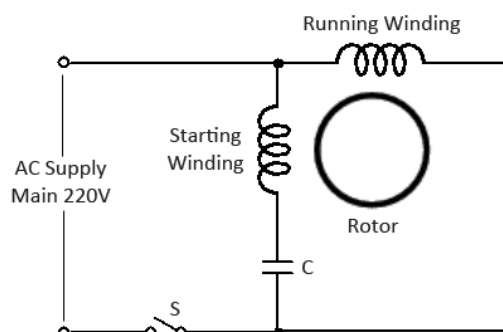

Figure 11.1 Ceiling fan circuit diagram
11.1 Perform the maintenance of ceiling fan and ending the trouble shoot problems as shown in Figure 11.1